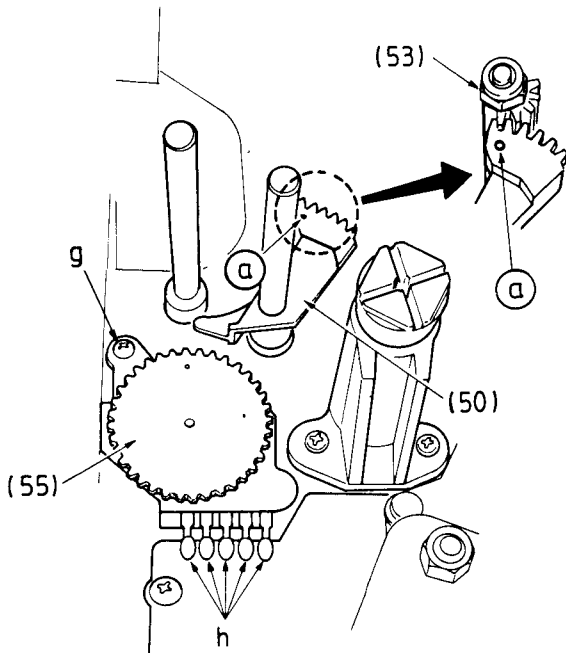

Fig. 62
- Funktionswahlschalter (55) einsetzen, Schraube "g" eindrehen und Kontakte "h" anlöten (Fig. 62).
- Fit the mode select switch (55), tighten the screw "g" and solder the contacts "h" (Fig. 62).
- Fit the P5 Toothed Segment (50) as shown in Fig. 62. The marked hole (a) on the P5 Toothed Segment (50) must be aligned towards the first tooth of the Tooth Segment on the P5 Lever (53).